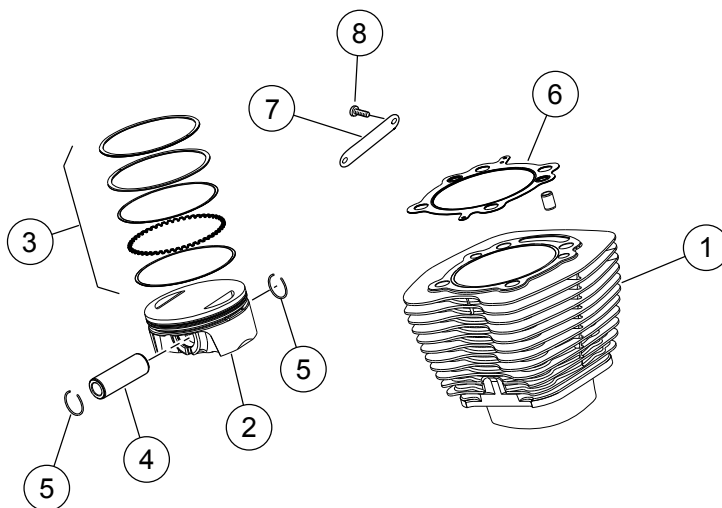

Figure 1. Service Parts: Screamin' Eagle Twin Cam 117 (1916 cc) Bolt-on Conversion Kit
See Figure 1 and Table 1.
1. See Figure 1 through service parts . Assemble engine top end using parts from kit. See the instruction sheet included with the pistons. See the appropriate ENGINE sections in the service manual.